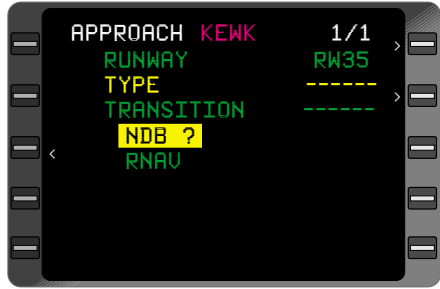

Figure 3-55
7. **Enter Key** - DEPRESS to select Approach **TYPE**. (Figure 3-55)